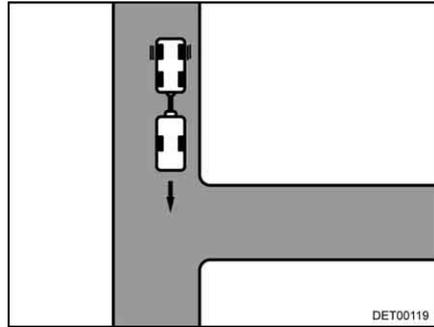

Fig. 14 Approach
- Drive up to the entrance until the rear of the caravan is roughly level with the entrance (Fig. 14).